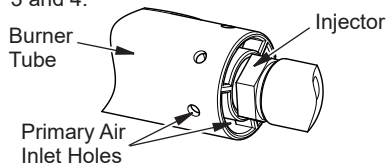

Figure 35 - Burner and Injector Holder
2. Inspect burner, pilot and primary air inlet holes on injector for dust and dirt (see Figure 35).